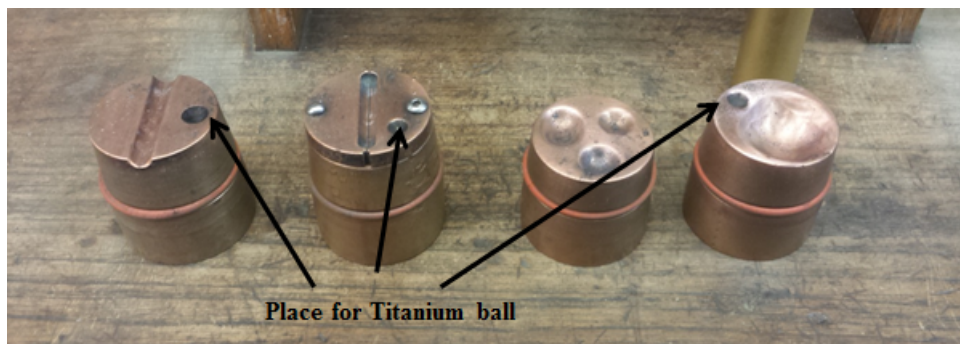

Figure 1: Different types of Copper crucible used in the arc furnace.
Fig. 1 shows the Copper crucibles used to strike the arc and melt the sample in. The two on the left are used for making rods, while the two on the right are used for making “lumps” of your compound.
Step 2: Place the elements/ compounds you want to melt in the copper crucible (Fig. 1). The copper crucible on the far right is the one most frequently used. Place a clean titanium ball in the pit.